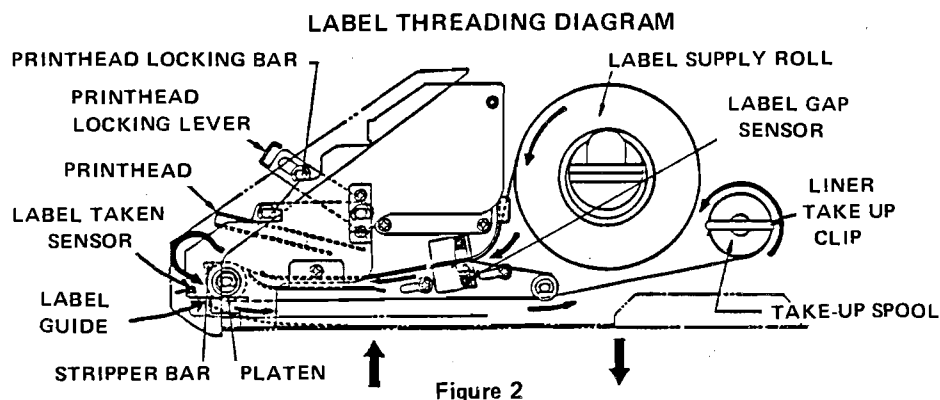

Figure 2
- 2.6 Place a new roll of labels on the hub, strip off 4-5 labels before threading the liner, and then thread per Figure 2.
- 4.3 Remove the label guide with the jammed label attached. (See Figure 2)
- 5.4 Dust the label taken and label gap sensor with a soft brush (see Figure 2).